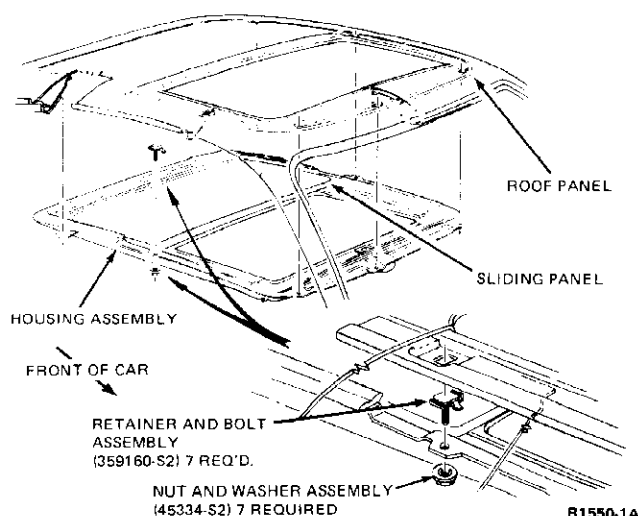

FIG. 9 Sliding Panel-To-Roof Panel Attaching Points
5. Remove the (7) nuts (for Pinto and Bobcat, (6) nuts for Mustang II) that retain the housing assembly to the roof panel, and lower the housing from the roof (Fig. 9). **The housing should be held in position, while the retaining nuts are being removed.**